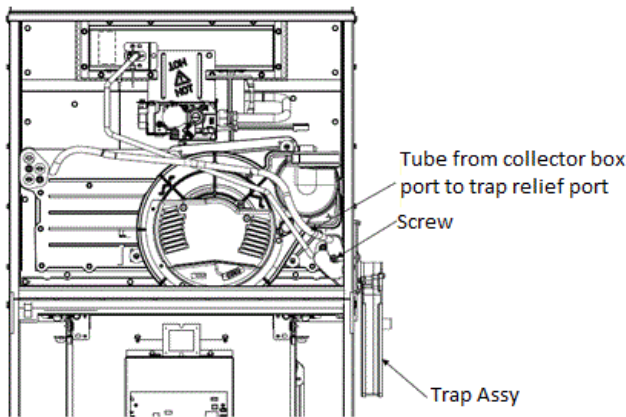

Fig. 19 – Example of Tube Connection
5. Remove factory-installed collector box cap. Run tube from port on upper left of the collector box to the relief port on the trap adapter (see Fig. 19). If the tube is too long, cut any extra length from the tube.
4. Remove factory-installed collector box cap. Run tube from port on upper left of the collector box to the relief port on the trap adapter (Fig. 19). If the tube is too long, cut any extra length from the tube.